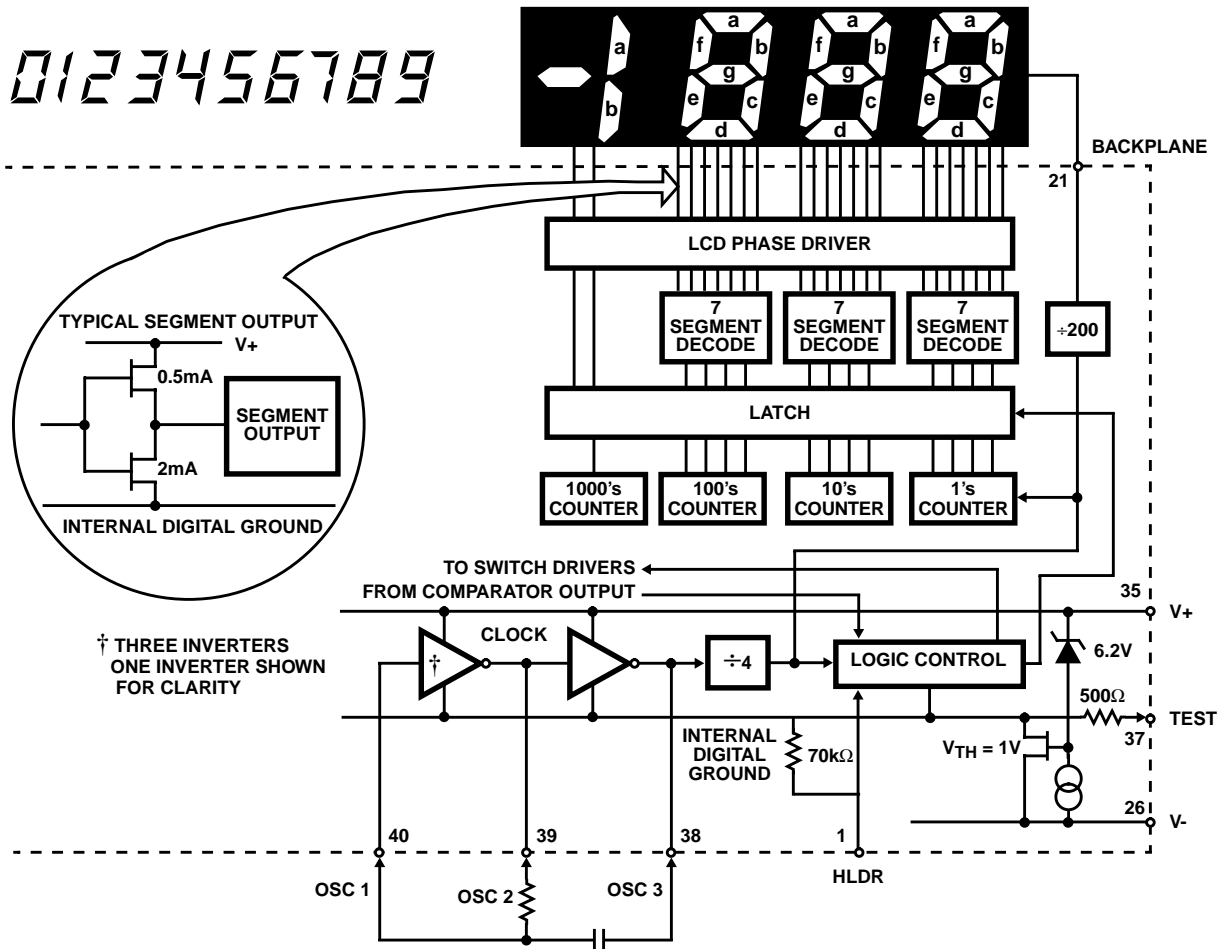

FIGURE 7. ICL7116 DIGITAL SECTION
The HLDR input will prevent the latch from being updated when this input is at logic "1". The chip will continue to make A/D conversions, however, the results will not be updated to the internal latches until this input goes low. This input can be left open or connected to TEST (ICL7116) or GROUND (ICL7117) to continuously update the display. This input is CMOS compatible, and has a 70kΩ (See Figure 7) typical resistance to either TEST (ICL7116) or GROUND (ICL7117).
Figures 7 and 8 show the digital section for the ICL7116 and ICL7117, respectively. In the ICL7116, an internal digital ground is generated from a 6V Zener diode and a large P-Channel source follower. This supply is made stiff to absorb the relative large capacitive currents when the back plane (BP) voltage is switched. The BP frequency is the clock frequency divided by 800. For three readings/second this is a 60Hz square wave with a nominal amplitude of 5V. The segments are driven at the same frequency and amplitude and are in phase with BP when OFF, but out of phase when ON. In all cases negligible DC voltage exists across the segments.